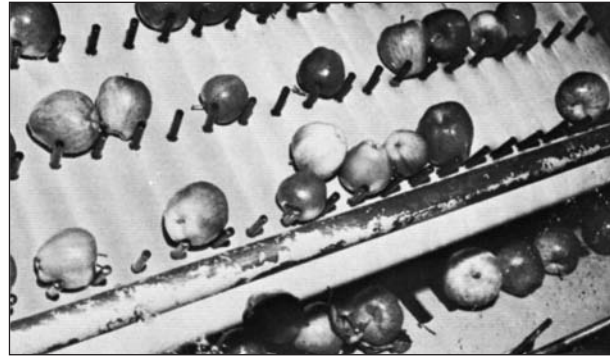

Figure 1
**Slippage and Roll-Back** are drastically reduced — to increase conveyor output, reduce product damage and keep spillage down. (Figure 1)